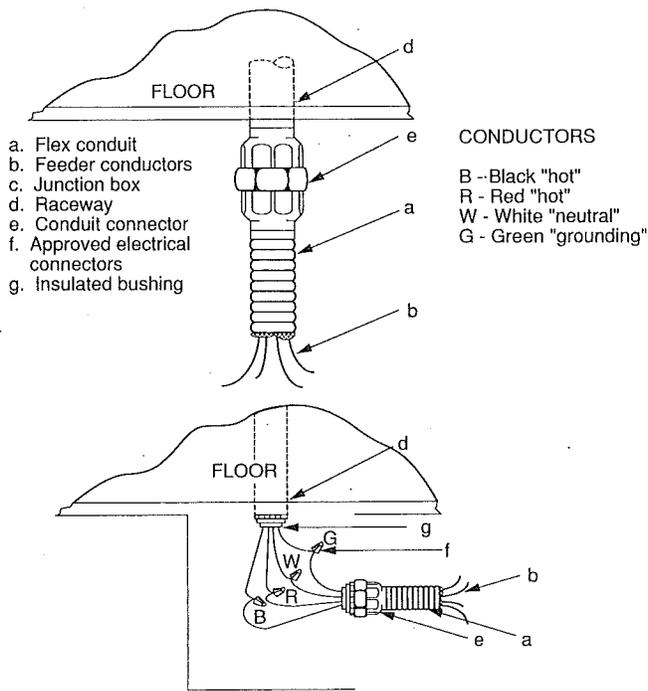

FIGURE 2
3.3.4 Home with Under-Chassis Feeder. A raceway is provided from the distribution panel to the underside of the home. A suitable conduit fitting or a junction box must be installed on the exposed end of the raceway as shown in Figure 2. See Exhibit 4 for minimum junction box size and for feeder conductor sizes required. Make final connections after completion of tests (Ref. Paragraph 3.3.2).